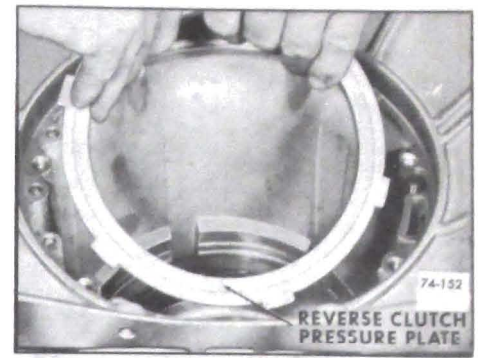

Figure 74-152
2. Lift reverse clutch pressure plate from transmission case. See Figure 74-152.